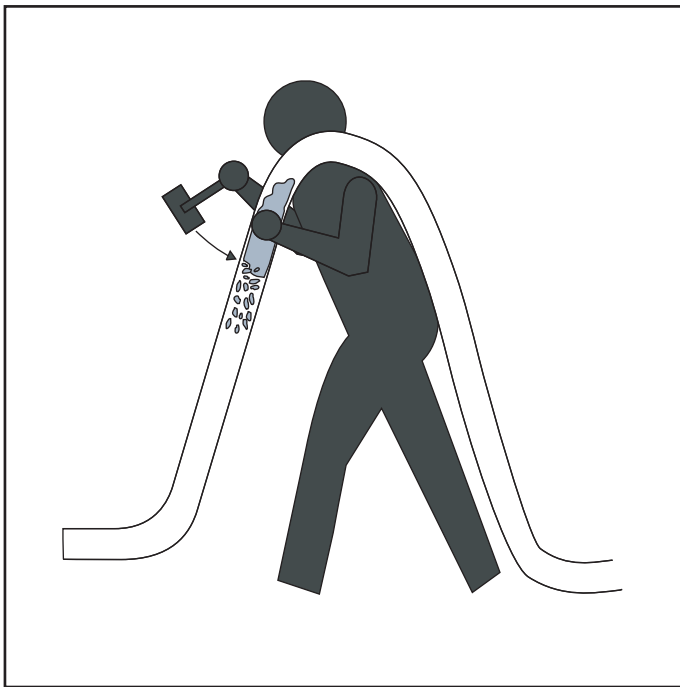

FIG.5-3A
- Place the hose vertically (backing over the shoulder) to evacuate its contents (FIG. 5-3A).